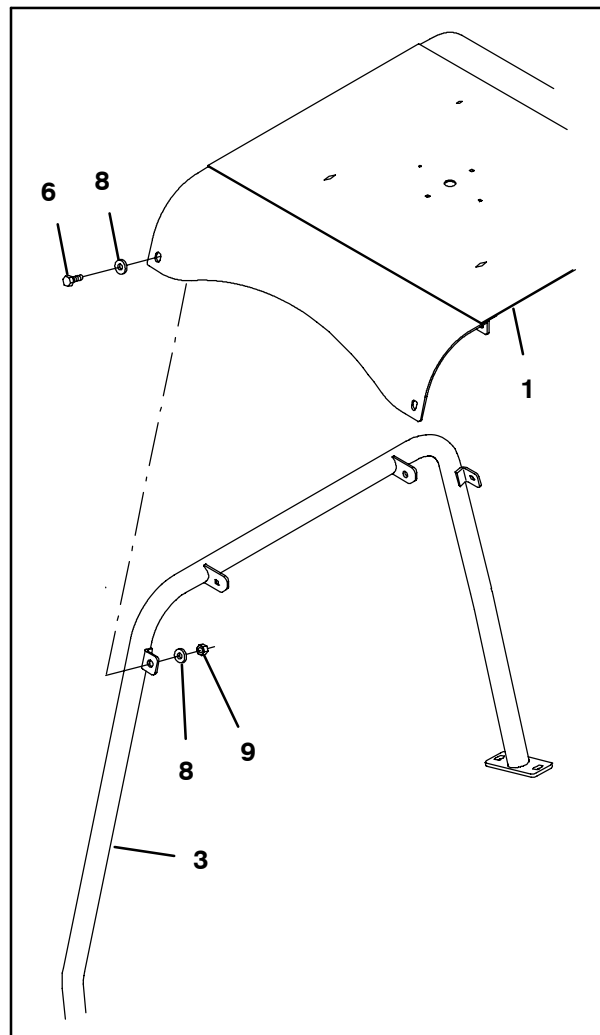

FIG. 1
1. Use four hex screws (6), eight flat washers (8), and four lock nuts (9) to install the right guard leg (3) onto the overhead guard top (1). Refer to Fig. 1.